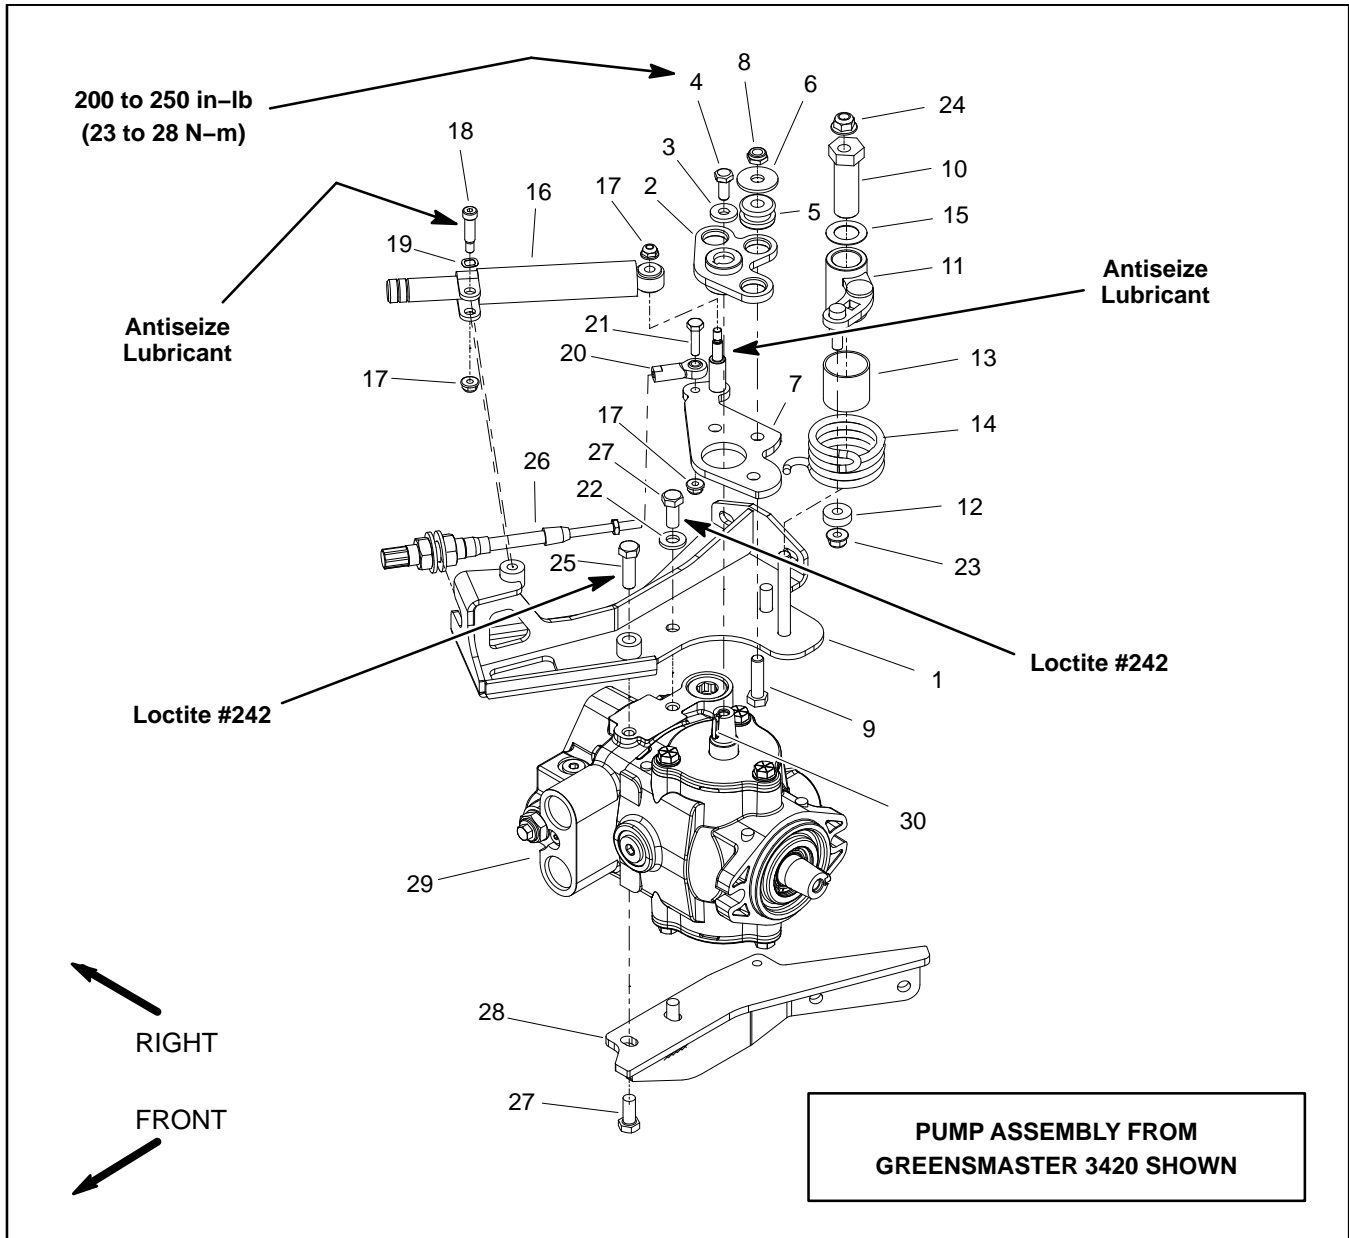

Figure 38
NOTE: The piston pump neutral assembly used on all Greensmaster TriFlex Hybrid machines are very similar. The pump assembly from the Greensmaster 3420 machine is shown in Figure 38.
Disassembly (Fig. 38)
2. Remove components from traction neutral assembly as needed using Figure 38 as a guide.
Assembly (Fig. 38)
1. Install removed components to traction neutral assembly using Figure 38 as a guide along with the following:
- A. If cable support (item 1) was removed from pump, apply Loctite #242 (or equivalent) to threads of screws that secure support to pump.
- B. If plate (item 2) was removed from pump trunnion shaft, make sure that both trunnion shaft and plate bore are thoroughly cleaned before installing plate to shaft. Secure plate to trunnion shaft with flat washer (item 3) and cap screw (item 4). Torque cap screw from **200 to 250 in-lb (23 to 28 N-m)**.
- C. If damper lever (item 16) was removed, apply anti-seize lubricant to post on pump lever (7) and shoulder of bolt (item 18) during assembly.
- D. Make sure that ball bearing (item 12) on neutral arm (item 11) is properly positioned in pump lever (item 7) after assembly.